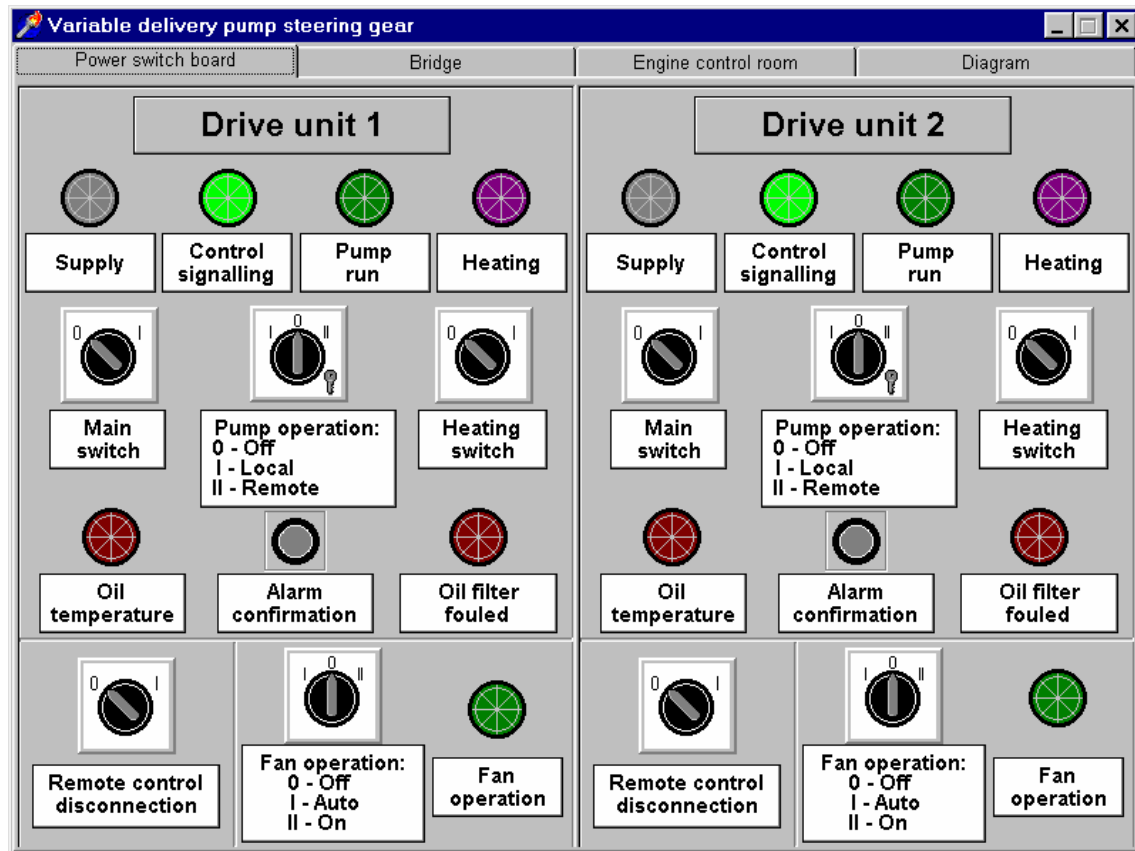

Fig. 12. Power switchboard panel.
#### 4. Power switchboard panel description - fig. 12.
- **Pump operation** switch - it selects the kind of operation of drive unit. In reality this switch is blocked by means of special key (visible on Figure 12, only as an imitation). This protects the switch against the shifting into undesired position by unauthorized persons,